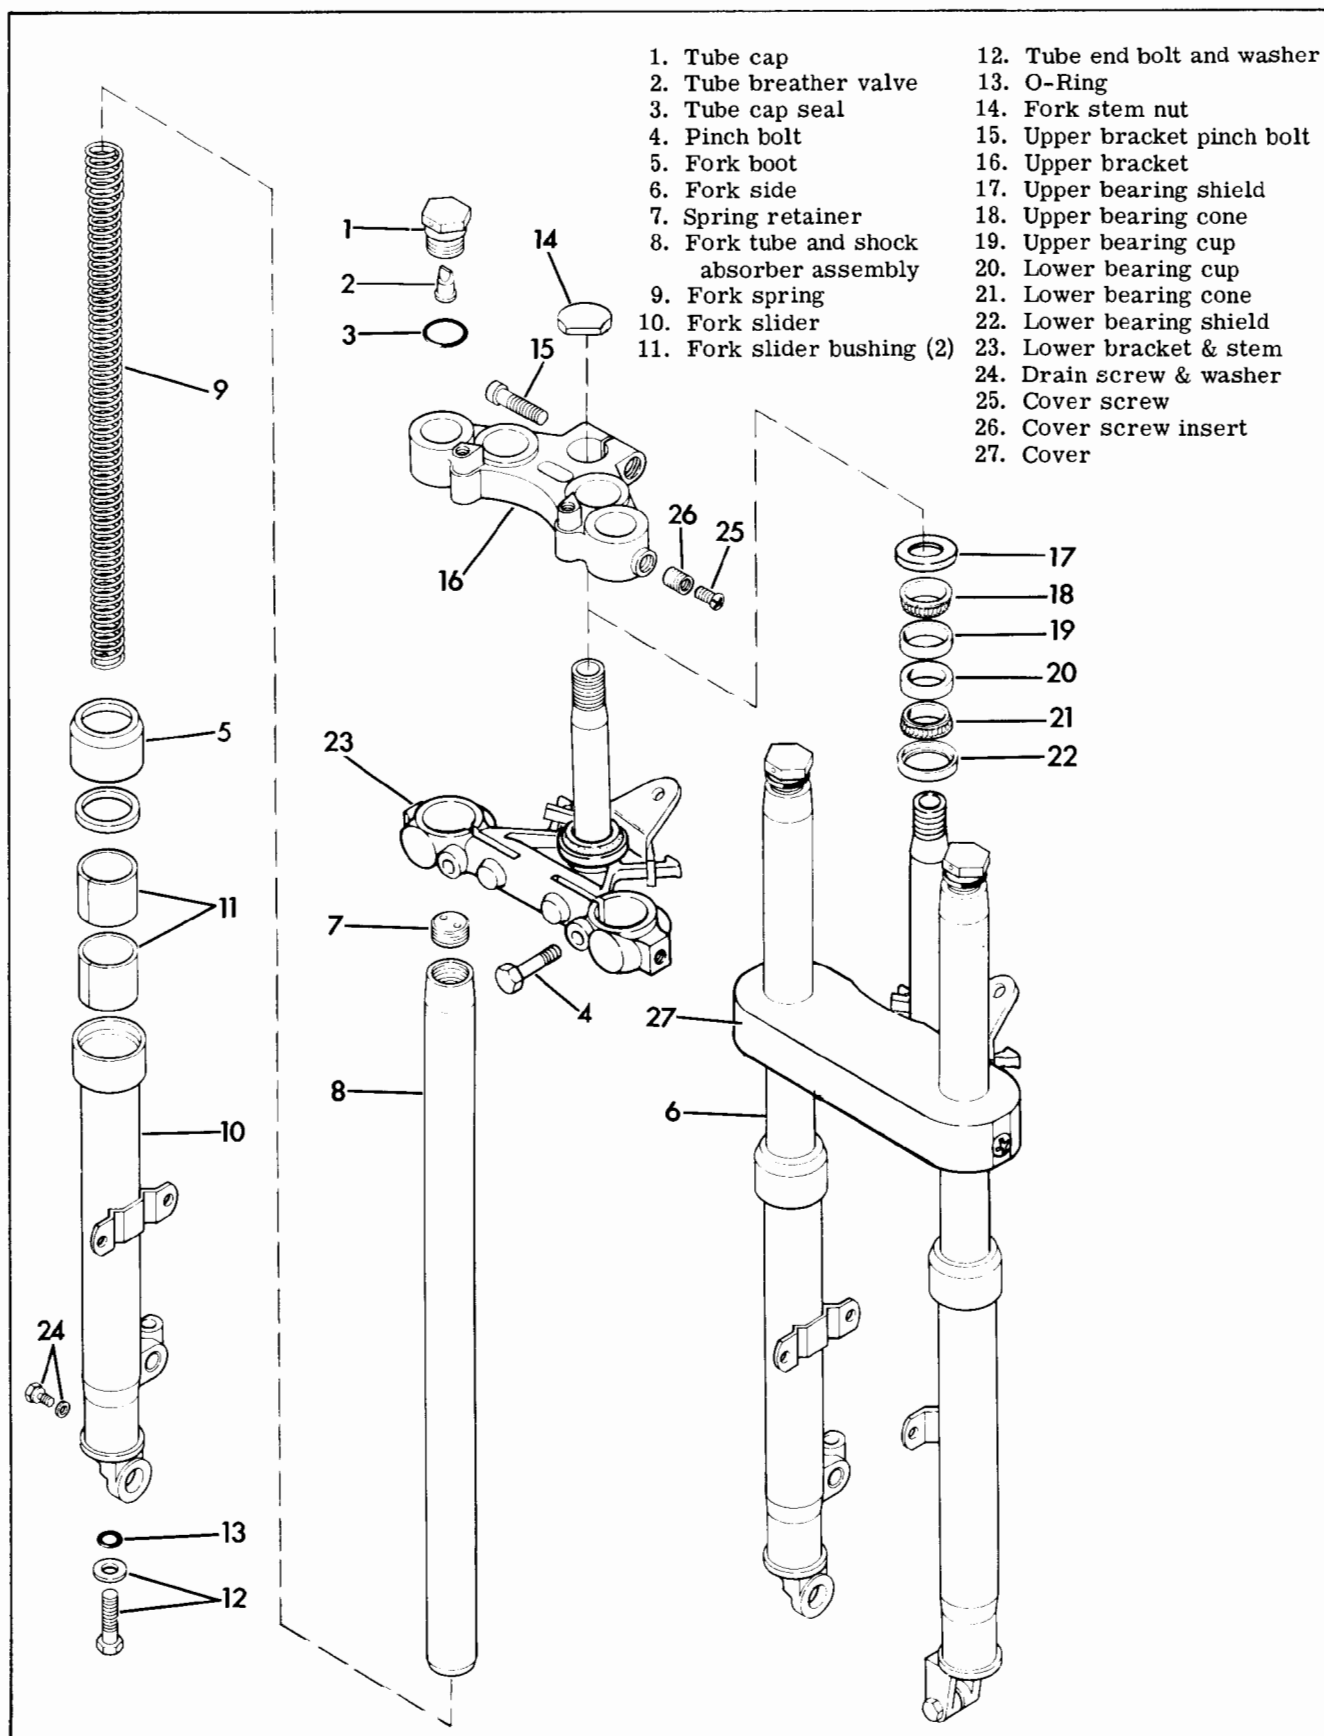

Figure 2-34C. Super Glide Front Fork - Exploded View
To drain fork sides, remove fork tube cap as described in "Disassembling Front Fork". Remove drain plug (24, Figure 2-34C) from lower end of fork slider. Loosen tube end bolt (12, Figure 2-34C) several turns. With a screwdriver move shock absorber up and down to loosen any sediment in bottom of fork slider, so oil will run free from drain.
INSPECTION PROCEDURE (Figure 2-34C)
See Figure 2-34C. Examine fork tube (8) for scoring and badly worn sliding surface. Inspect fork slider bushings (11) in fork slider (10) for wear and scoring. Insert tube (8) in fork slider (10), and work up and down. If tube has appreciable play in slider, replace slider bushings. See "Removing Fork Slider Bushings."
REPLACING BREATHER VALVE (Figure 2-34C)
DISASSEMBLING FRONT FORK (Figure 2-34C)
REMOVING FORK STEM AND BRACKET ASSEMBLY FROM STEERING HEAD (Figure 2-34C)
To replace bearing races (19 and 20, Figure 2-34C), knock head cup from steering head using a suitable drift. Press new bearing race in new head cup and then press assembly into frame head. If you wish to use old head cups, holes must be drilled in back side of cup so that race can be driven out by using small diameter drift or by some other improvised means.
ASSEMBLING FRONT FORK (Figure 2-34C)
INSTALLING STEM AND BRACKET ASSEMBLY, FORK SIDES AND ADJUSTING STEERING BEARINGS (Figure 2-34C)